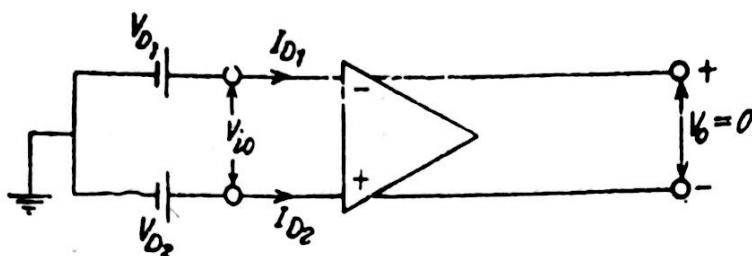

Fig. 13.
(1) Input Bias Current : In an ideal OP-AMP output is zero when the two inputs are identical ($V_0 = 0$ if $V_1 = V_2$). In practice, due to mismatch of input transistors, unequal bias current flows through the input terminals. Thus input bias current is the current flowing into each of the two input terminals when they are biased to the same voltage levels or the average of the currents into the two input terminals (fig. 13) with output at zero volts, is input bias current. That is,